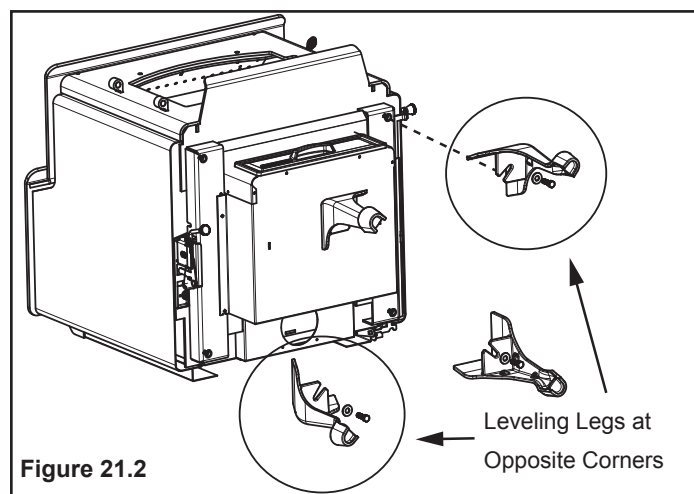

Figure 21.2
4. Install legs onto mounting brackets making sure the legs are up against the bracket and secure with bolts and washers using a 3/8 open end wrench (**Figure 21.2**).
5. Install leveling bolts into 2 legs; these leveling legs should be in opposite corners (**Figure 21.2**).